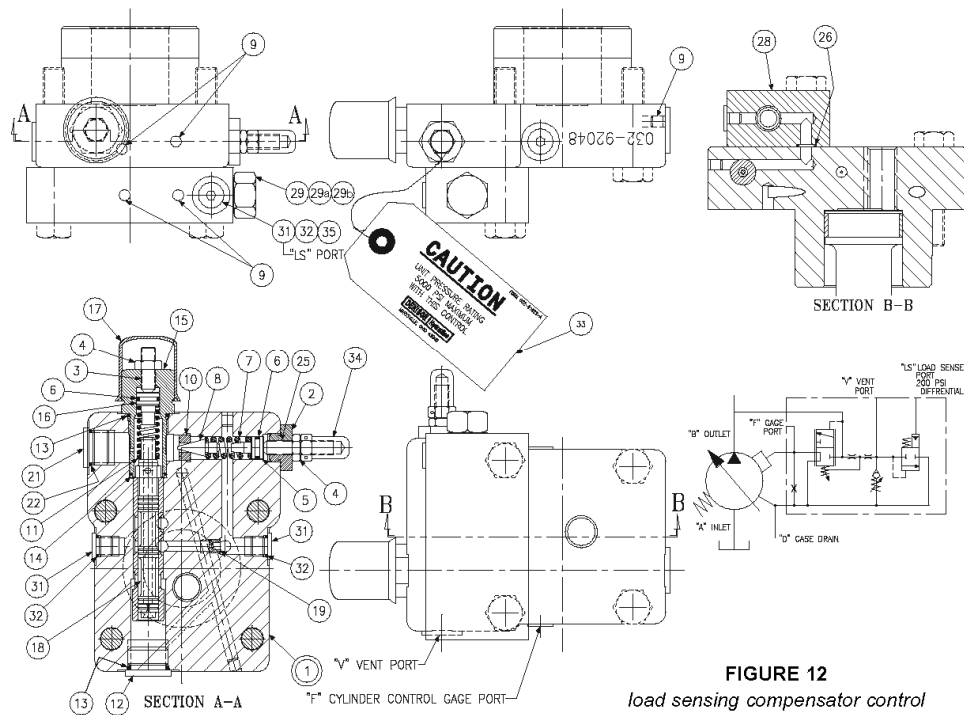

FIGURE 12
PARTS LIST FOR FIGURE 12 LOAD SENSING COMPENSATOR
1. See Figure 12 Back off maximum volume screw or handwheel to full displacement. Remove maximum volume assembly.
3. Remove isolation valve (29) from block (28). Remove plug (15) and attached parts. Remove spring (11) and spool (18).
4. Remove adjusting plug (2) and attached parts. Remove seal piston (5). Note: a 10-24 screw may be used to assist in pulling the piston. Remove spring (7) and cone (8).
5. Do not remove sleeve in body (1). Sleeve is pressed into cap and finished to size. If sleeve or cap is worn, replace the cap-sleeve assembly (1).
6. Examine seat (10) for wear. Do not remove unless damaged.
Ref. Figure 12